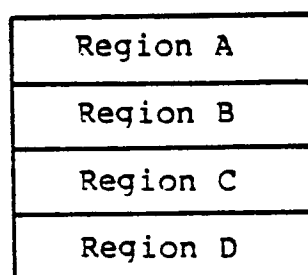

Figure 4-1. Example Memory Allocation
Any given program loaded through a CCP command can, itself, load additional programs and allocate data areas. Suppose four regions of memory are allocated in the following order: a program is loaded at the CCP level through an operator command. The CMD file header is read, and the entire memory image consisting of the program and its data is loaded into region A, and execution begins. This program, in turn, calls the BDOS Program Load function (59) to load another program into region B, and transfers control to the loaded program. The region B program then allocates an additional region C, followed by a region D. The order of allocation is shown in Figure 4-1 below: